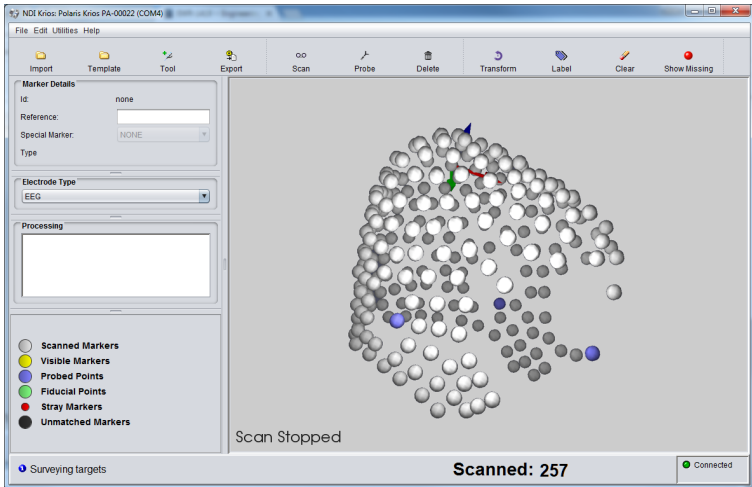

Figure 3-6 Probing Complete
- When you have probed all required points, select **Done**. The probed points will change to light blue, see Figure 3-6.